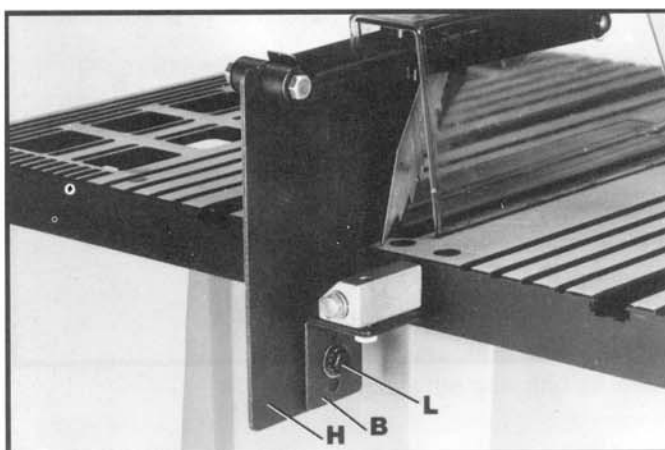

Fig. 8
7. Assemble splitter (H) Fig. 8, to splitter support bracket (B) as shown using 3/4 inch-long hex head screw, external tooth lockwasher, and flat washer (L).